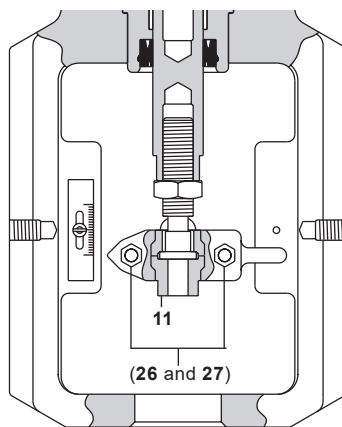

Fig. 10
- Loosen and remove the clamp nuts and screws (26 and 27, see Figure 10) and remove the valve adaptor (11).